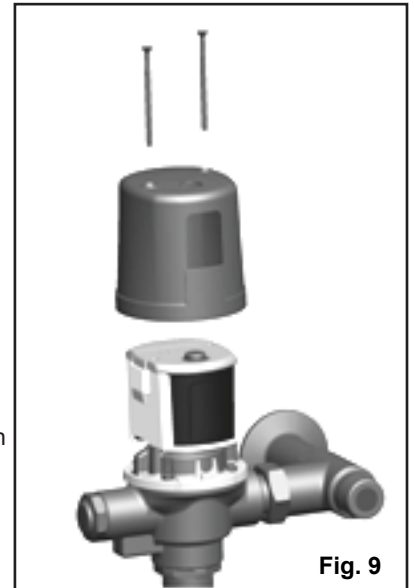

Fig. 9
- If 30 minutes have passed since the initial power-up of the valve - open up the battery compartment (Figures 9 and 10) and disconnect the battery snap for 10 seconds. Reconnect and replace the cover and screws. If hardwired - disconnect battery snap to the hardwire converter for 10 seconds.
1. Remove the two cover screws and lift off metal cover, see Figure 9.